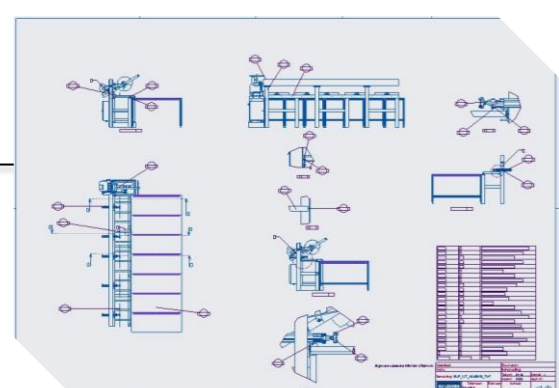

Figure 6: Drawing buffer
- Drawings were made using the CAD program PTC Creo. Figure 6 and 7 show these drawings. Figure 8 gives the final result.